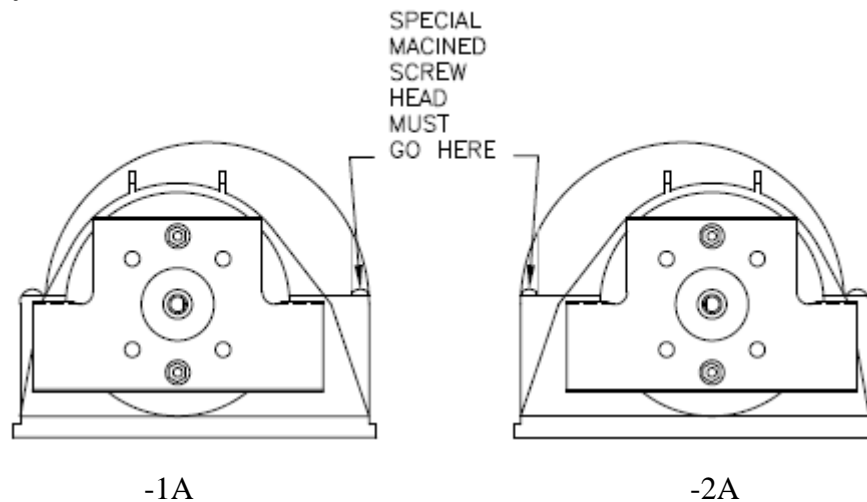

FIG. 3
- 9.1 Remove the 8 Trac screws that hold the two blower housings together. Retain the screws for reassembly. Remove the Top Housing (17-2641). Note the spacing of the Blower Wheel in the Lower Housing (17-2642). Note that one of the screw heads has been machined down. Install in the same location, See FIG. 3.